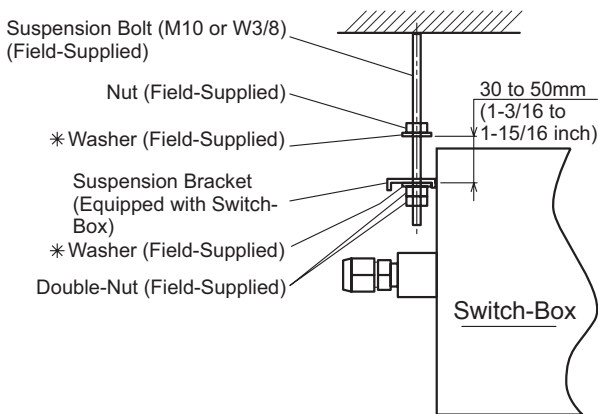

Figure 4.4 Suspension
- (1) Put nuts on each of the two suspension bolts before hanging the Switch-Box, as shown in Figure 4.4.